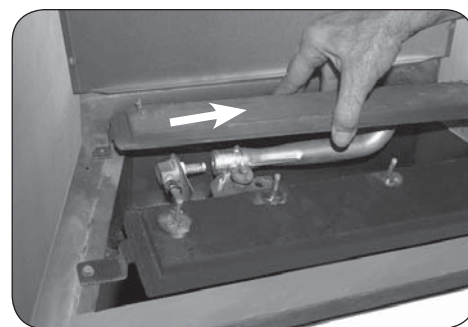

Fig. 29-4 Remove burner
5. Remove the burner by sliding it to the right, so that the venturi tube clears the orifice, then fully out (see Fig. 29-4). Repeat for the second burner if applicable.